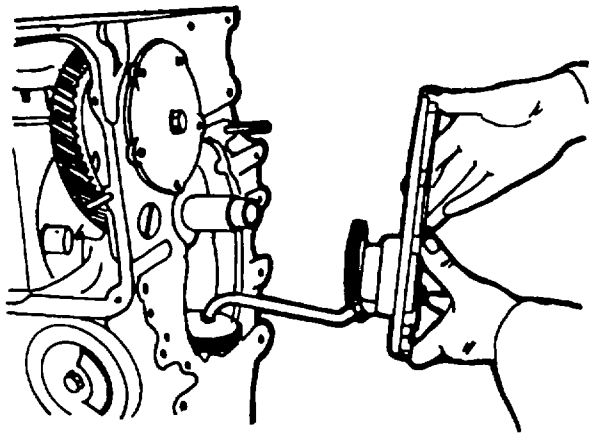

Figure 5-36. Mounting Front Cover with Lube Oil Pump
46. Install a new gasket and seal to the front cover; coat the gasket with grease so that it sticks in position and mount the front cover with the oil pump to the engine (figure 5-36).